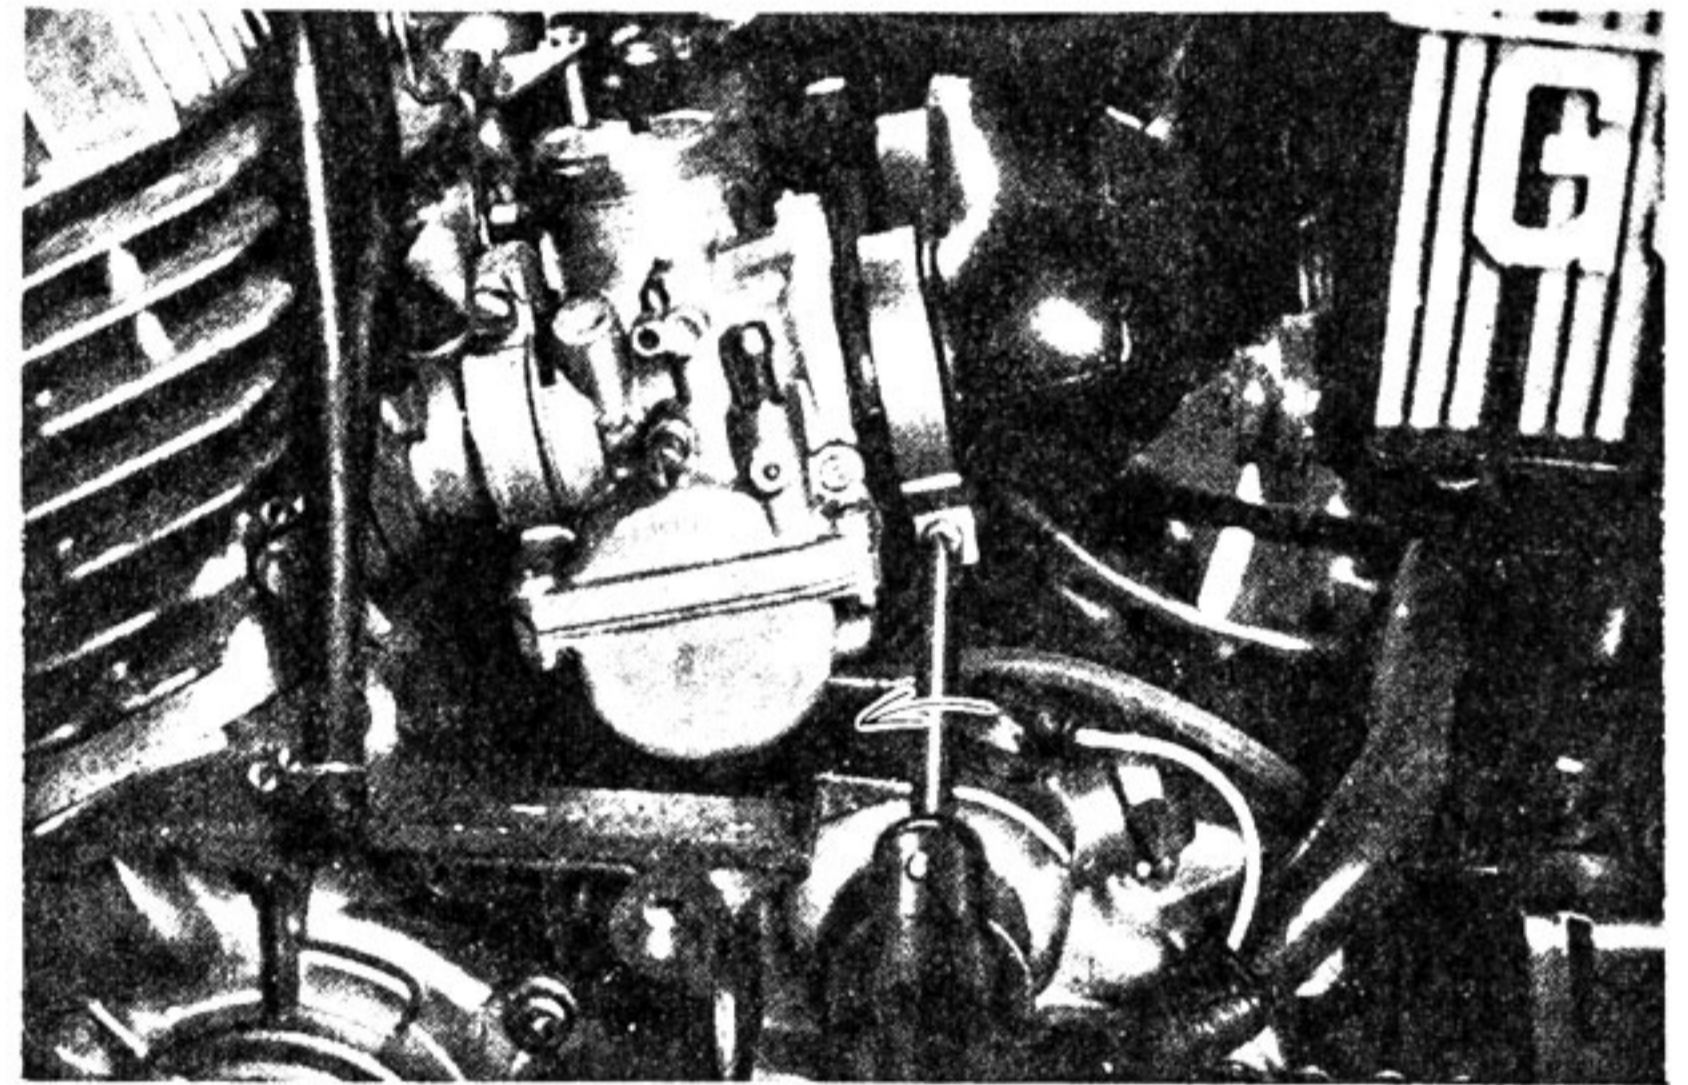

Fig. 4-1-11
7. Remove the air cleaner rubbers. (Fig. 4-1-11)